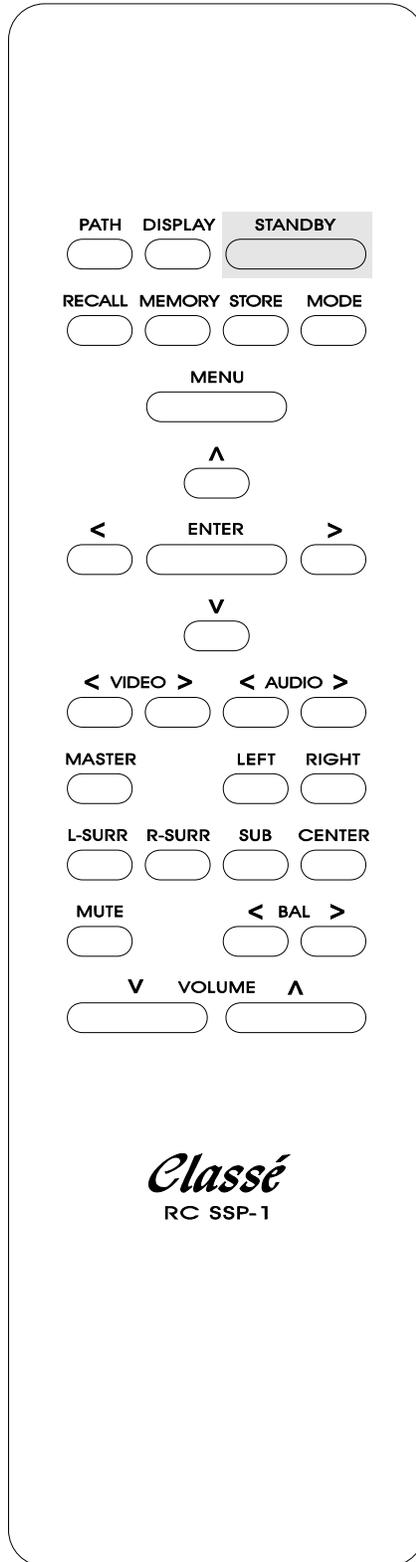

Fig.5: Remote control model SSP-1
3. Finally, we have the capacity to control all six amplifiers by using a special 5 volt DC connection (see fig. 5, page 6) sent from the Classé Audio SSP-1 surround processor/preamplifier. When the SSP-1 is connected to the 5 volt DC input on the rear of the remote interface box, the standby function of the SSP-1 (accessible either via the front panel or remote control of the SSP-1) will send a signal to sequentially turn on or turn off any amplifiers connected to the remote interface box. When the SSP-1 is in standby mode, there is no signal sent to the remote interface box; when the SSP-1 is changed to active mode, there is a +5volt DC signal sent to the remote interface box. This product is also able to be controlled by aftermarket custom installation remote switches which use a standard +5 to +12 volt DC signal. For information about interfaces with other products, please contact the Classé Service Department.